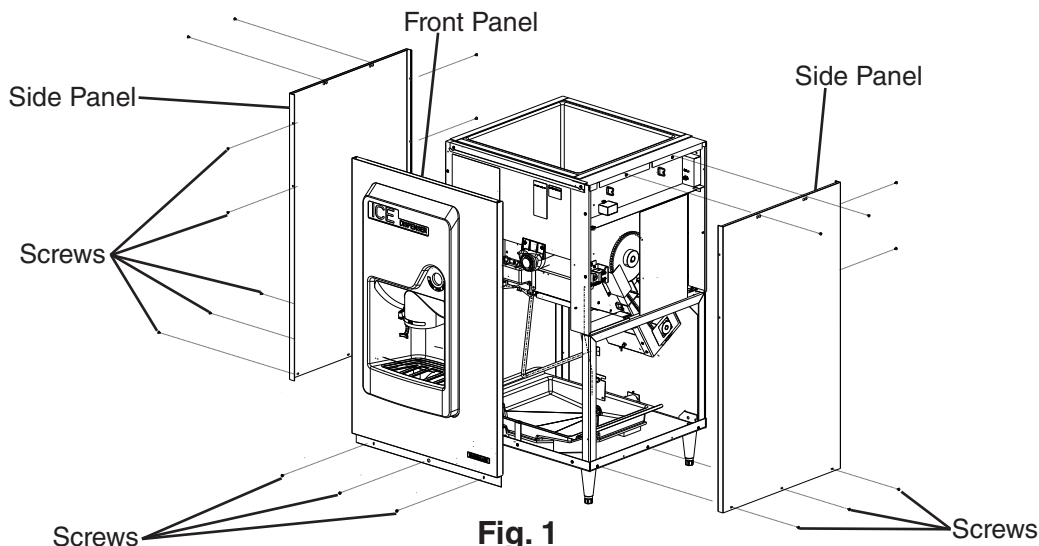

Fig. 1
- Front Panel: Remove the screws. Lift up and towards you. See Fig. 1.